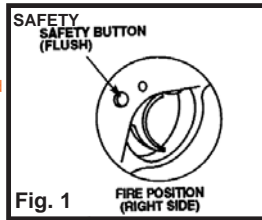

Fig. 1 Push in from left for "On Safe". Push in from right for "Off Safe".
- Push the safety from the left side all the way in (Fig. 1). The safety is not "On Safe" unless it is pushed all the way in and the RED ring around the safety is NOT showing. Like all mechanical devices, an airgun safety can fail. Even when the safety is "On Safe", you should continue to handle the airgun safely. NEVER point the airgun at anything you do not intend to shoot.